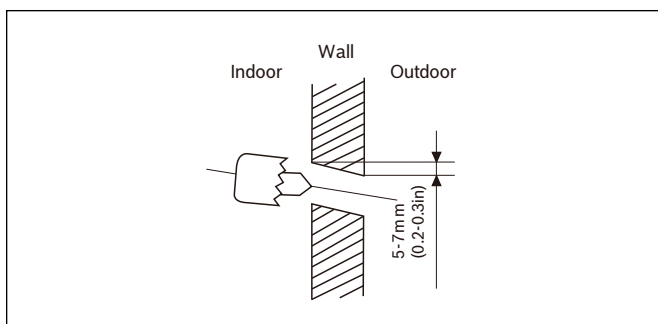

Figure 8
2. Using a 2.5in (65mm) core drill, drill a hole in the wall. Make sure that the hole is drilled at a slight downward angle, so that the outdoor end of the hole is lower than the indoor end by about 0.2-0.275in (5mm to 7mm). This will ensure proper water drainage. (See Fig. 8)